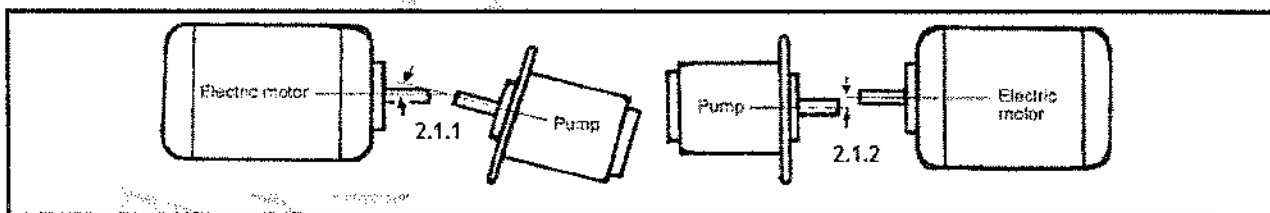

FIGURE 1
2.1 FIGURE 1 shows a sketch of a type of coupling with different types of misalignment.
Name the types of coupling misalignment shown in FIGURE 1. Write only the answer next to the question numbers (2.1.1 and 2.1.2) in the ANSWER BOOK. (2 × 1) (2)